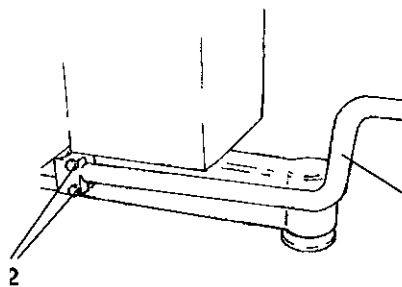

Fig. 3-5
- Grasp vacuum valve at the top on the plastic part and draw off horizontally (Fig. 3-5)
- Release the stop bar (Fig. 3-5, 1 and 3-6, 1) by unscrewing two bolts (Fig. 3-5, 2) with the WAF 17 spanner (order no. 134.069.120-171).